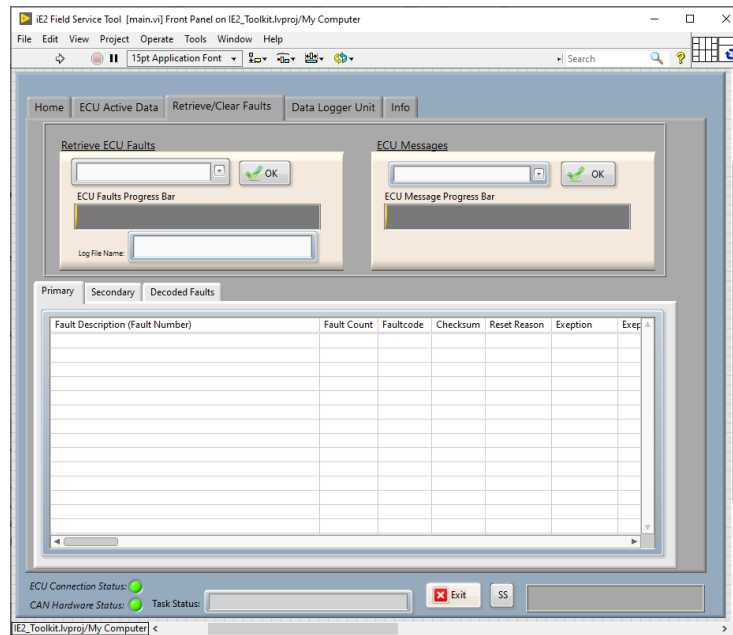

Figure 8
2. Click on the “Retrieve/Clear Faults” tab (Figure 8).